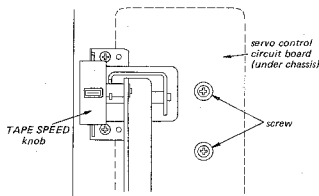

Fig. 3-11. Servo control circuit board position adjustment
1. Loosen the two servo control circuit board holding screws shown in Fig. 3-11. Set the tape speed switch to the 9.5 cm/s (3-3/4 ips) position (center).